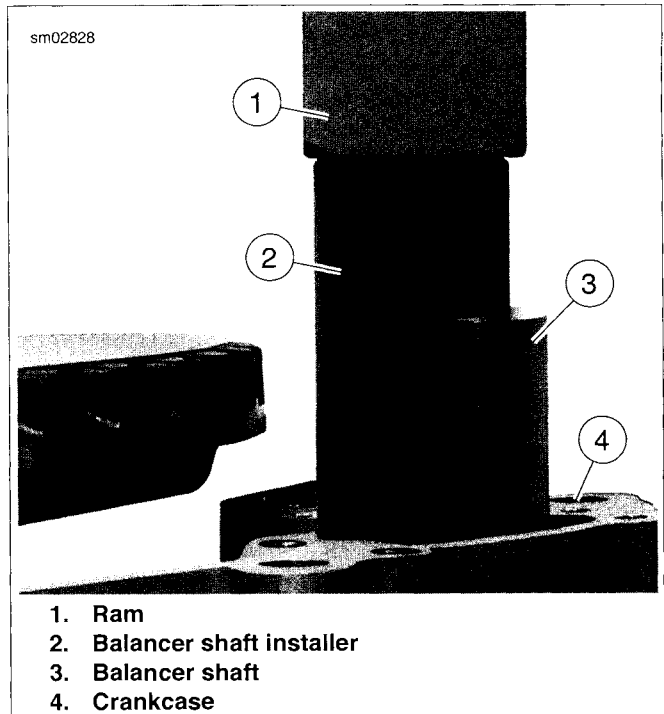

Figure 3-163. Balance Shaft Installation
2. See Figure 3-163. Place balancer shaft (3) and bearing in crankcase (4).
3. Place BALANCER SHAFT INSTALLER (Part No. HD-48309) (2) over balancer shaft.